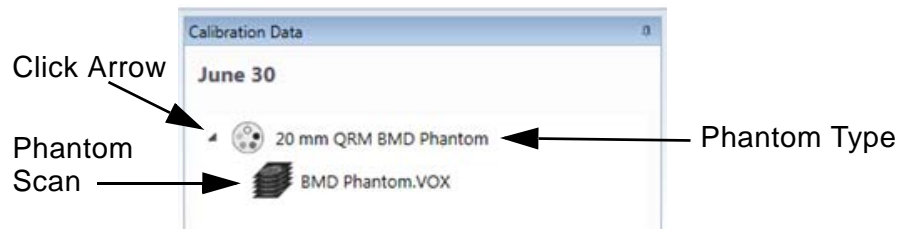

Figure 51. Associate Phantom Scan to Phantom Type
- 6 Click the arrow to view the name of the phantom scan associated to the phantom. See Figure 51.
The **Segment BMD Phantom** step is enabled on the Workflow Viewer Tab. See Figure 51.